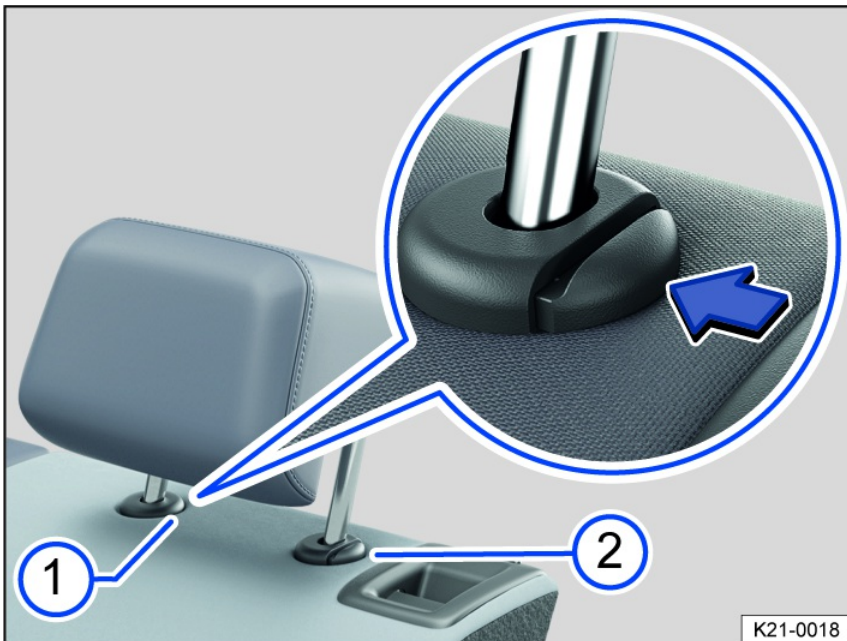

Fig. 76 General example: removing the rear head restraint.
3. Press the button *fig. 76* on the head restraint guide.
4. At the same time, press button ② while a second person pulls the head restraint all the way out.
3. Push the head restraint downward while pressing the *fig. 76* button.